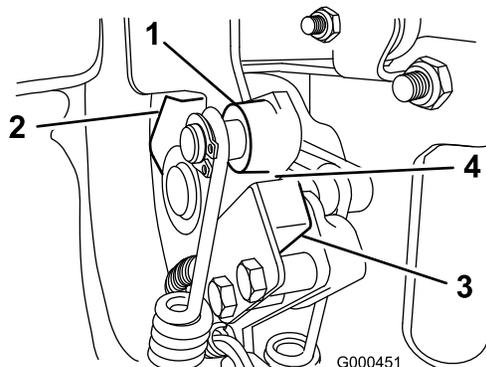

Figure 32
2. Engage traction lever until it contacts neutral stop (Figure 32).
3. Loosen interlock switch mounting fasteners (Figure 32).
4. Place a .032" thick shim between the traction lever and the interlock switch (Figure 32).